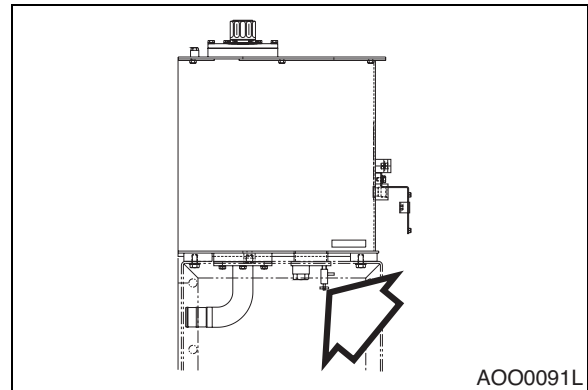

Figure 50
2. Position a container under hydraulic reservoir drain plug. Open reservoir breather cap (See Figure 13 on page 4-13). Loosen drain valve from bottom of reservoir (Figure 50). Allow all water and sediment to drain out. Tighten drain valve.